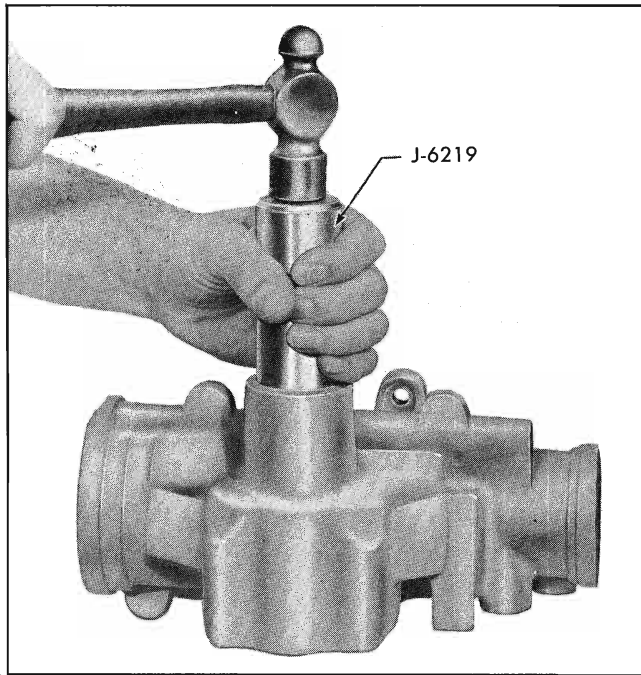

Fig. 9A-27 Installing Pitman Shaft Seals Using J-6219
4. If connectors were removed, install new connectors by driving into place with tool J-6217 (Fig. 9A-28).